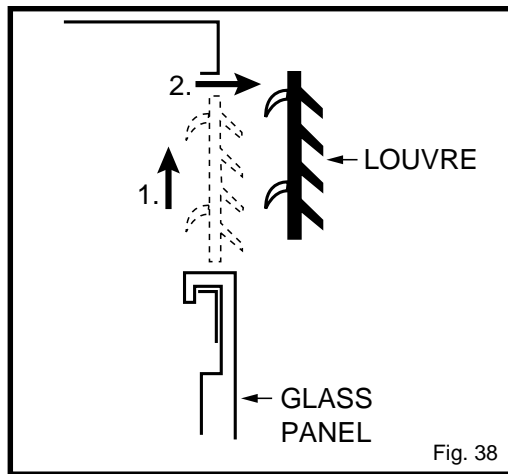

Fig. 38
5. Place firestop(s) #7DVFS into position and secure. (Fig. 38)
Fig. 38 If there is a room above ceiling level, firestop spacer must be installed on both the bottom and the top side of the ceiling joists. If an attic is above ceiling level a 7DVAIS (Attic Insulation Shield) must be installed.